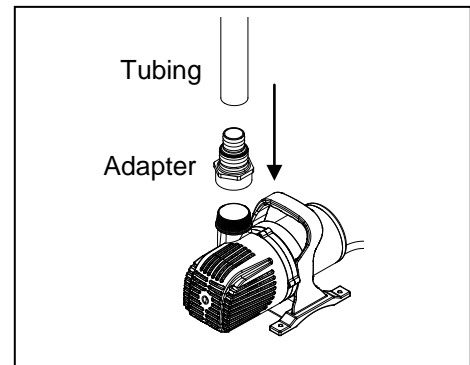

Fig. 2
2. Connect tubing to the outlet of the pump with the appropriate adapter. Fig 2